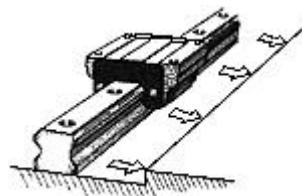

Fig. 3 Holding an LM Rail against the Reference Surface
- Gently place an LM rail on the base, and temporarily tighten the bolts so that the rail lightly contacts the mounting surface. (Hold the line-marked side of the LM rail against matching the base-side reference surface.) (Fig. 3)